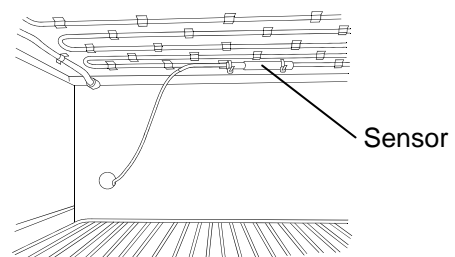

Fig. 18
8. After covering the recorder sensor with the cover provided, fix the recorder sensor under the middle shelf by using 2 enclosed binders. See Fig. 18.